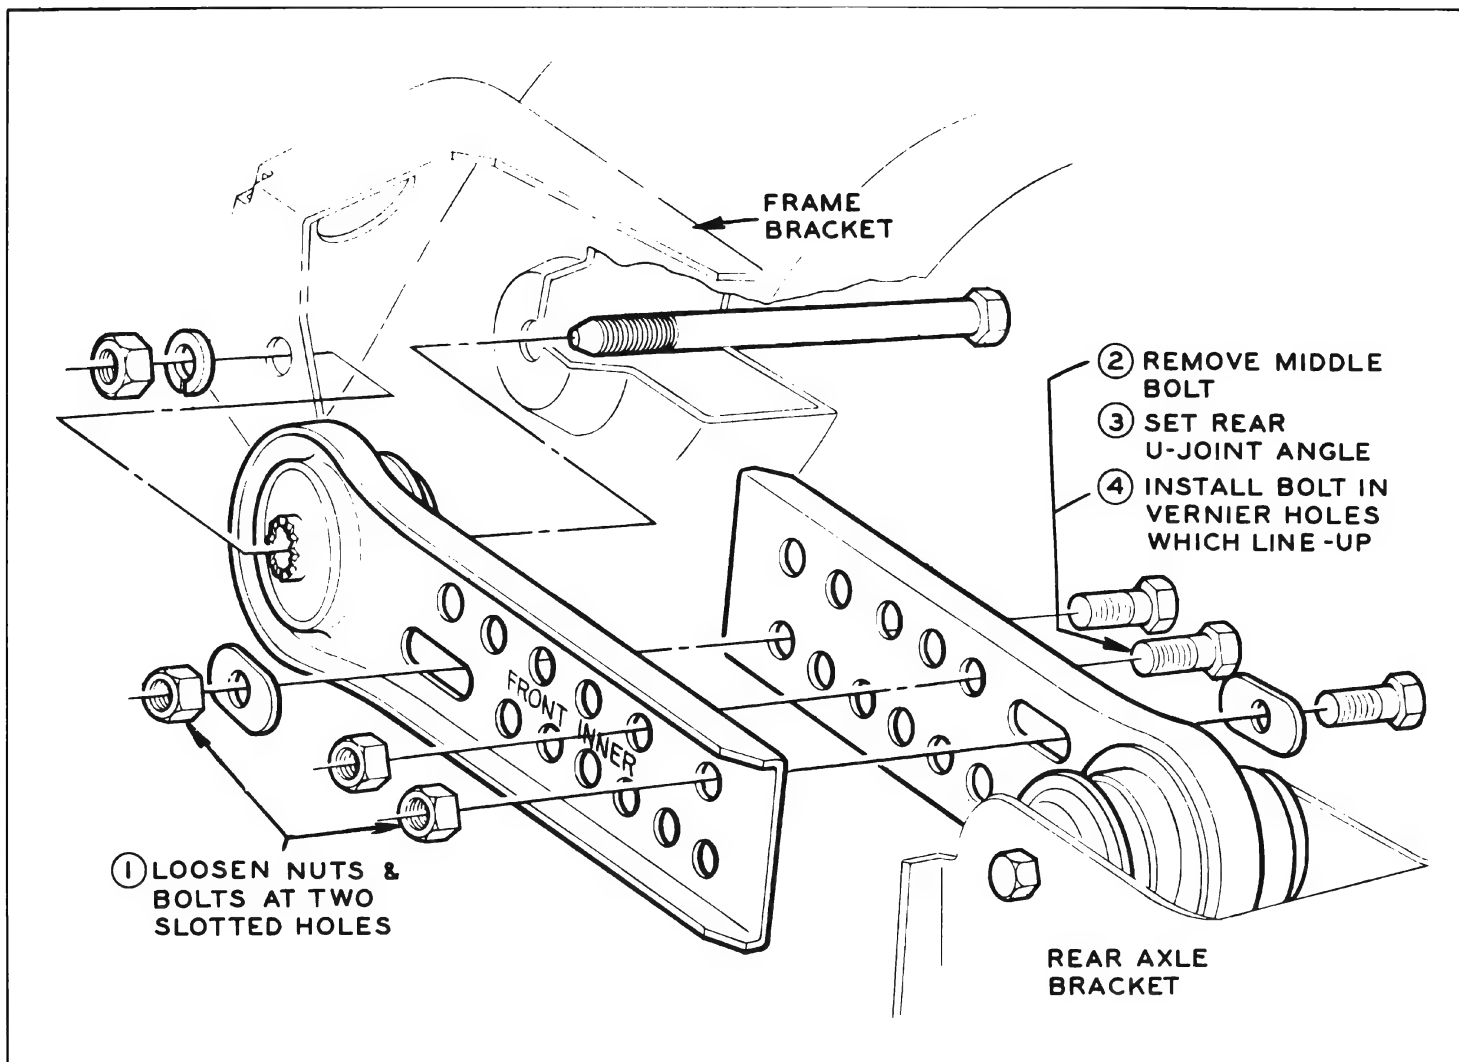

Figure 6-74—Adjusting Rear Universal Joint Angle
2. Loosen nuts and bolts at two slotted holes and remove middle adjustment bolt. See Figure 6-74.